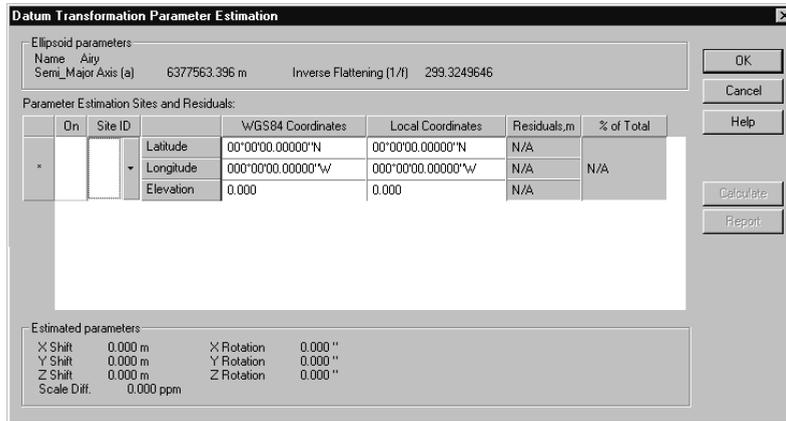

Figure 9.3. Data Transformation Parameter Estimation Dialog Box
1. From the **Datum Definition** dialog box, click the **Estimate.....** button to open up the **Datum Transformation** dialog box, Figure 9.3.